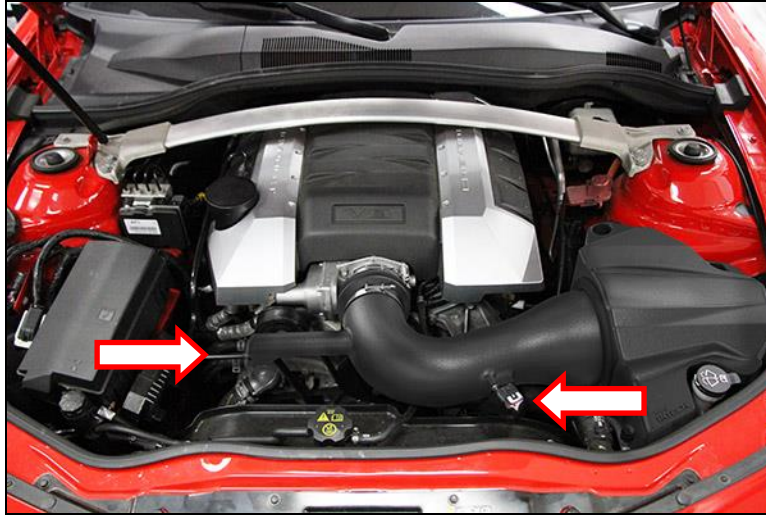

Figure 6
12. Install the intake tube into the air filter until you feel a 'lock' (**soap and water or equivalent will help with inserting the tube into the filter**), then rotate and align the tube with the throttle body and coupling. Insert tube into the silicone coupling. Install the remaining t-bolt clamp and tighten. See **Figure 6**.
13. Reconnect the MAF sensor and breather hose (**Figure 6**).